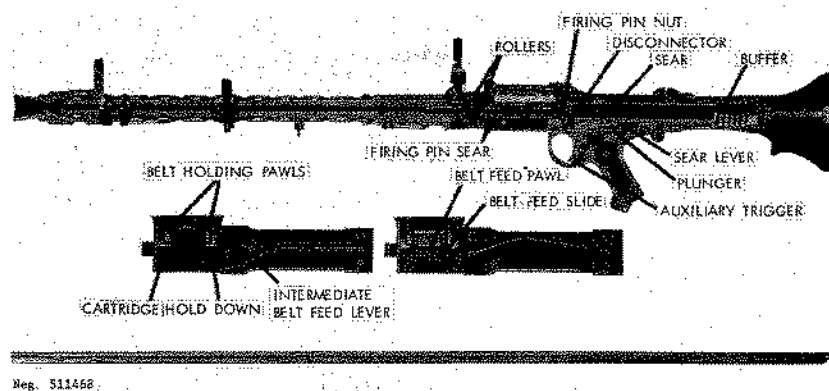

Figure 169. MG34 section.
e. The MG34 normally has a selective fire trigger mechanism. A simple spring-loaded sear (fig 169) pinned to bottom of the receiver is actuated by a spring-loaded sear lever (fig 169) located directly to the rear of the sear. The sear lever, in turn, is activated by a plunger that extends from the rear of the trigger. As the trigger is pressed, the rear of the disconnecter (pivoted to the top front of the trigger) contacts the plunger; this causes the sear lever to pivot to force the sear down and release the bolt.
f. If the lower, or automatic fire, section of the trigger is pressed, the small auxiliary trigger (fig 169) pivots to clear a stop shoulder on the frame. The plunger actuates the sear lever, and as the bolt runs forward, it forces the disconnecter (fig 169) down and the trigger moves slightly rearward. The square shoulder of the plunger then seats against the rear of the trigger and holds the sear lever in its pivoted position, and because the sear lever holds the sear depressed, the gun continues to fire until the trigger is released. When this occurs, the trigger with the disconnecter moves forward and the plunger, because it no longer rests against the disconnecter, moves forward under the influence of the sear-lever spring (as the sear lever rotates) and allows the sear to rise to intercept the bolt and halt the firing cycle.
turn, operates an intermediate feed lever; this lever (fig 169) fits into the belt feed slide and moves the slide back and forth. A spring-loaded feed pawl mounted on the slide rides on the ammunition belt and feeds it into the gun. A pair of nonreciprocating holding pawls in the cover, on each side of the feed slide, prevents the belt from moving outward with the feed slide. A pair of spring-loaded cartridge holddowns forces the cartridge into the slot of the feed tray so the cartridge can be picked up by the forward moving bolt.